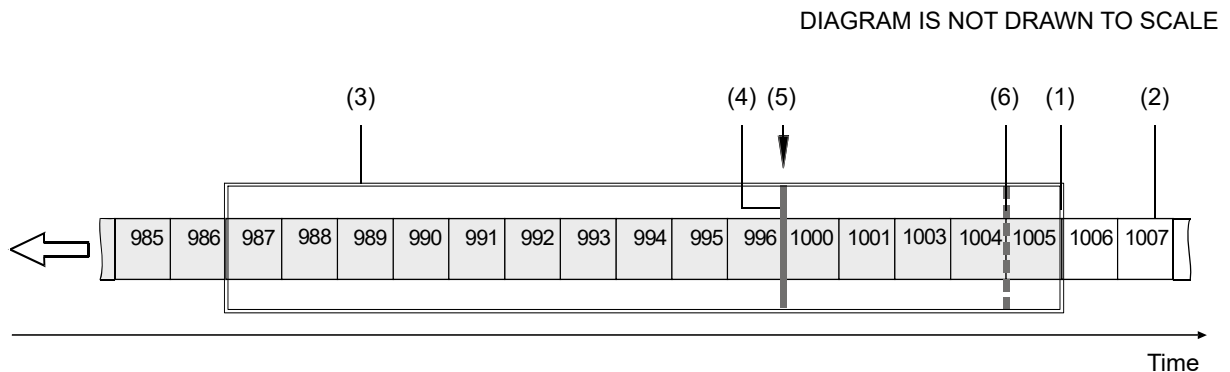

Fig. 66: Example of a Receive Window with Resend Request Threshold & Resend Request Batching Threshold
The threshold resend request mechanism is illustrated in Figure 66 where the following assumptions are made:
- (1) Front end of the receive window. Missing packets are detected here.
- (2) Stream of packets. Gray indicates that the status was checked as the packet entered the receive window. White indicates that the status has not yet been checked.
- (3) Receive window of the performance driver.
- (4) Threshold for sending resend requests (resend request threshold).
- (5) A separate resend request is sent for each packets 997, 998, and 999.
- (6) Threshold for batching resend requests for consecutive missing packets (resend request batching threshold). Only one resend request will be sent for the consecutive missing packets.
**Resend Request Threshold** - This parameter determines the location of the resend request threshold within the receive window as shown in Figure 66. The parameter value is in per cent of the width of the receive window. In Figure 66 the resend request threshold is set at 33.33% of the width of the receive window.
A stream of packets advances packet by packet beyond the resend request threshold (i.e. to the left of the resend request threshold in Figure 66). As soon as the position where a packet is missing advances beyond the resend request threshold, a resend request is sent for the missing packet.
In the example shown in Figure 66, packets 987 to 1005 are within the receive window and packets 997 to 999 and 1002 were detected as missing. In the situation shown, a resend request is sent to the camera for each of the missing consecutive packets 997 to 999. The resend requests are sent after packet 996 - the last packet of the intact sequence of packets - has advanced beyond the resend request threshold and before packet 1000 - the next packet in the stream of packets - can advance beyond the resend request threshold. Similarly, a resend request will be sent for missing packet 1002 after packet 1001 has advanced beyond the resend request threshold and before packet 1003 can advance beyond the resend request threshold.
**Resend Request Batching** - This parameter determines the location of the resend request batching threshold in the receive window (Figure 66). The parameter value is in per cent of a span that starts with the resend request threshold and ends with the front end of the receive window. The maximum allowed parameter value is 100. In Figure 66 the resend request batching threshold is set at 80% of the span.
If the Resend Request Batching parameter is set to 0, no batching will occur and a resend request will be sent for each single missing packet. For other settings, consider an example: Suppose the Resend Request Batching parameter is set to 80 referring to a span between the resend request threshold and the front end of the receive window that can hold five packets (Figure 66). In this case 4 packets ( $5 \times 80\%$ ) will fit into the span between the resend request threshold and the resend request batching threshold. Accordingly, the maximum number of consecutive missing packets that can be batched is 5 ( $4 + 1$ ).